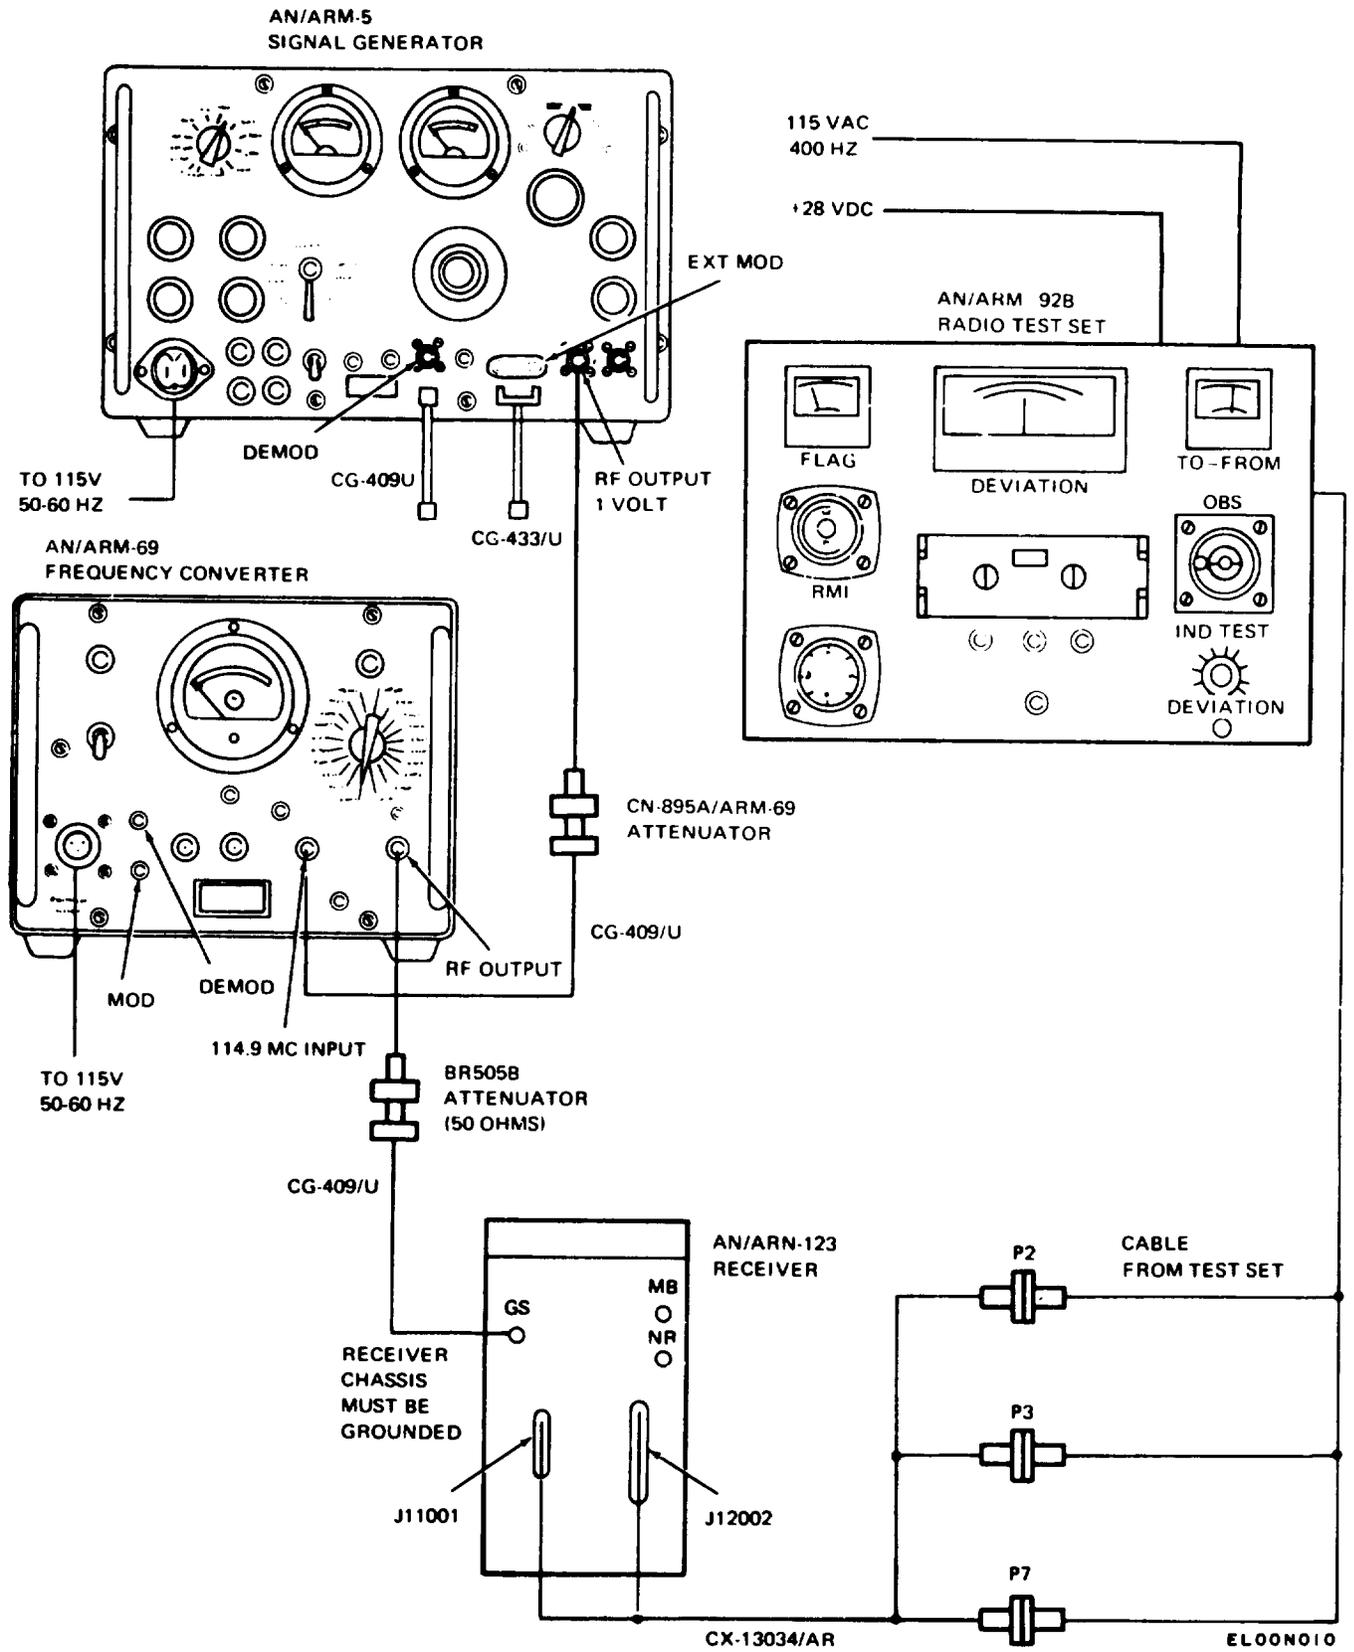

Figure 3-2. Bench Test Setup, Glideslope.
(1) Set up a standard LOC test signal (para 3-20a, b, and c).
(2) The AN/ARM-92B FLAG meter shall indicate 220 microamperes minimum.
(3) Set the MD-83A/ARN TONE LOCALIZER switch to CAL 150°.
(4) The AN/ARM-92B FLAG meter shall indicate 180 microampere or less.
(5) Set the MD-83A/ARN TONE LOCALIZER switch to CAL 90°.
(6) The AN/ARM-92B FLAG meter shall indicate 180 microampere or less.
*a. Test Setup.* The glideslope bench tests are performed with the test setup shown in figure 3-2. Standard 52-ohm coaxial cables with mating connectors are used for all rf and modulation interfaces. Adapter Cable CX-13034/AR connects the receiver to Radio Test Set AWARD-92B.